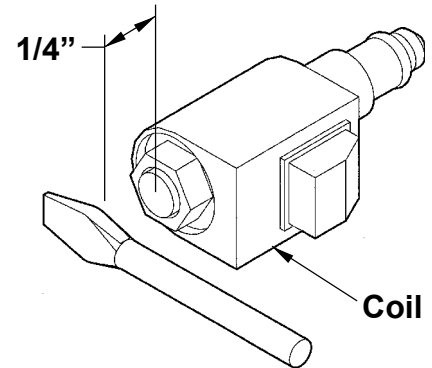

FIGURE 1
1. Check Solenoid Valves for electrical shorts by holding a screwdriver approximately 1/4" from the top nut of the Solenoid. (**See Fig. 1**). The solenoid should not draw the screwdriver to the nut with a magnetic force, unless the toggle switch is actuated. The Coil can be replaced by removing the Nut and Wires.